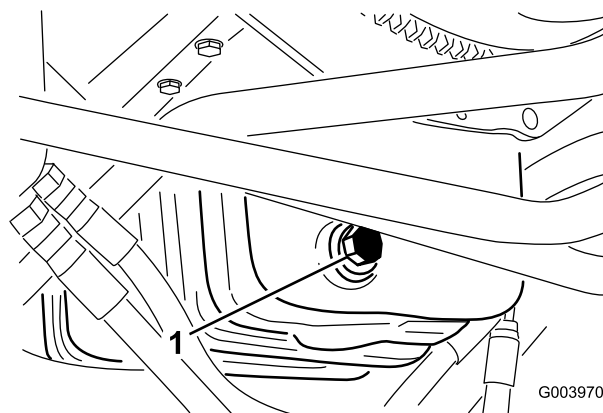

Figure 60
1. Remove the drain plug (Figure 60) and let the oil flow into a drain pan.